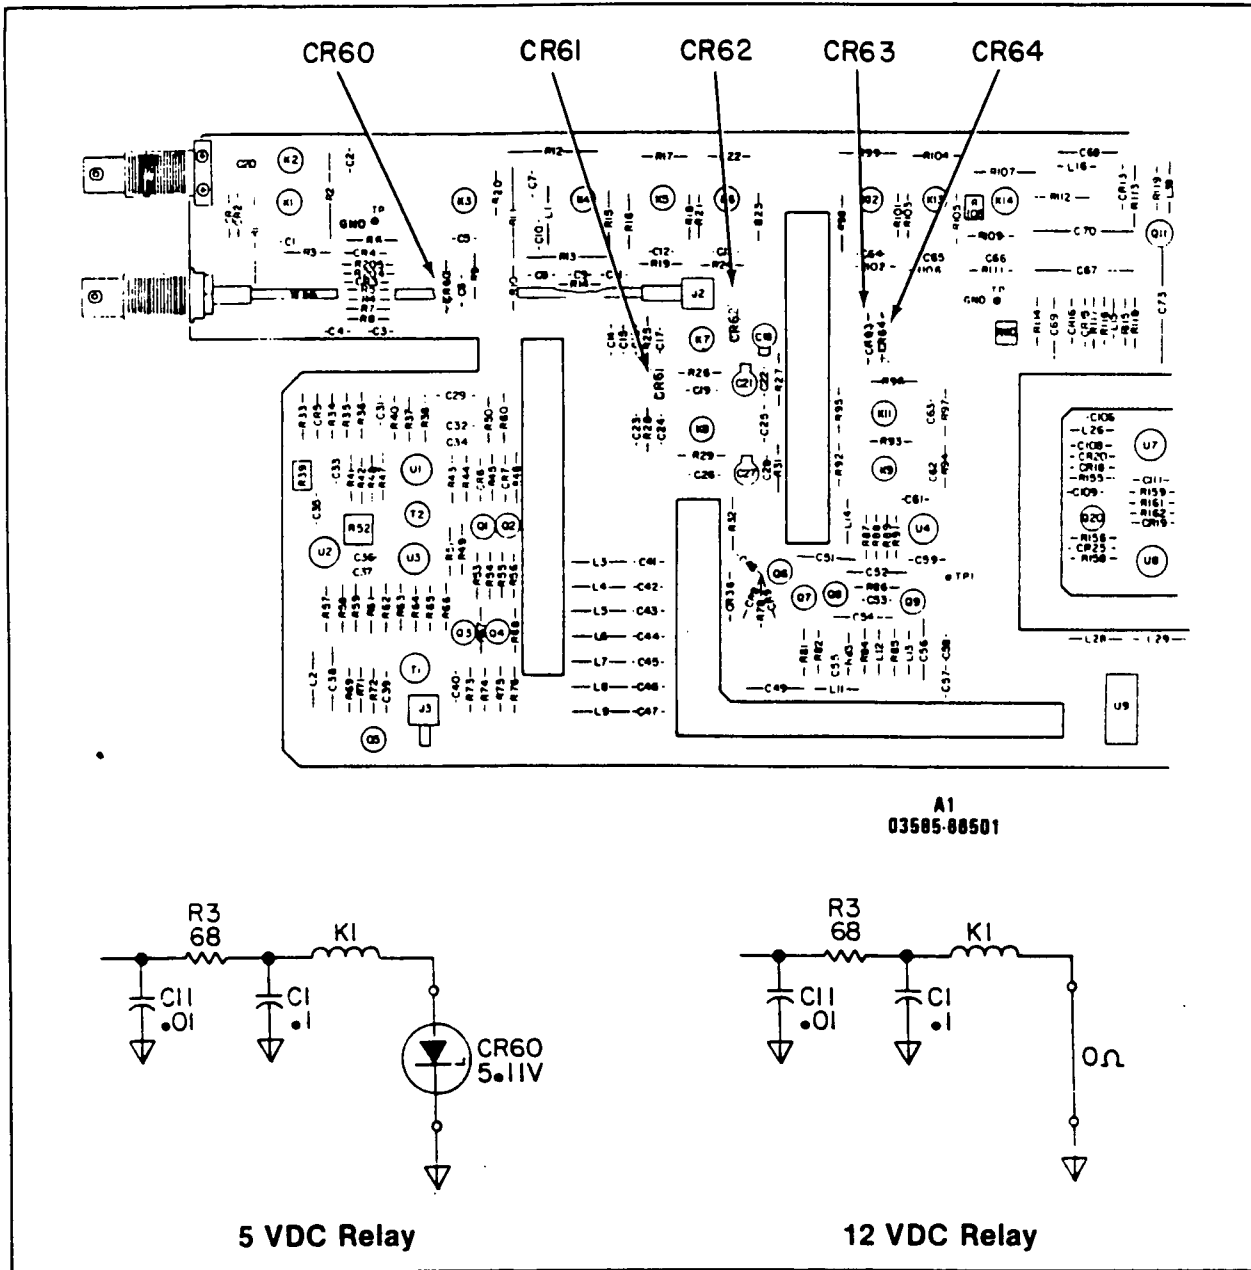
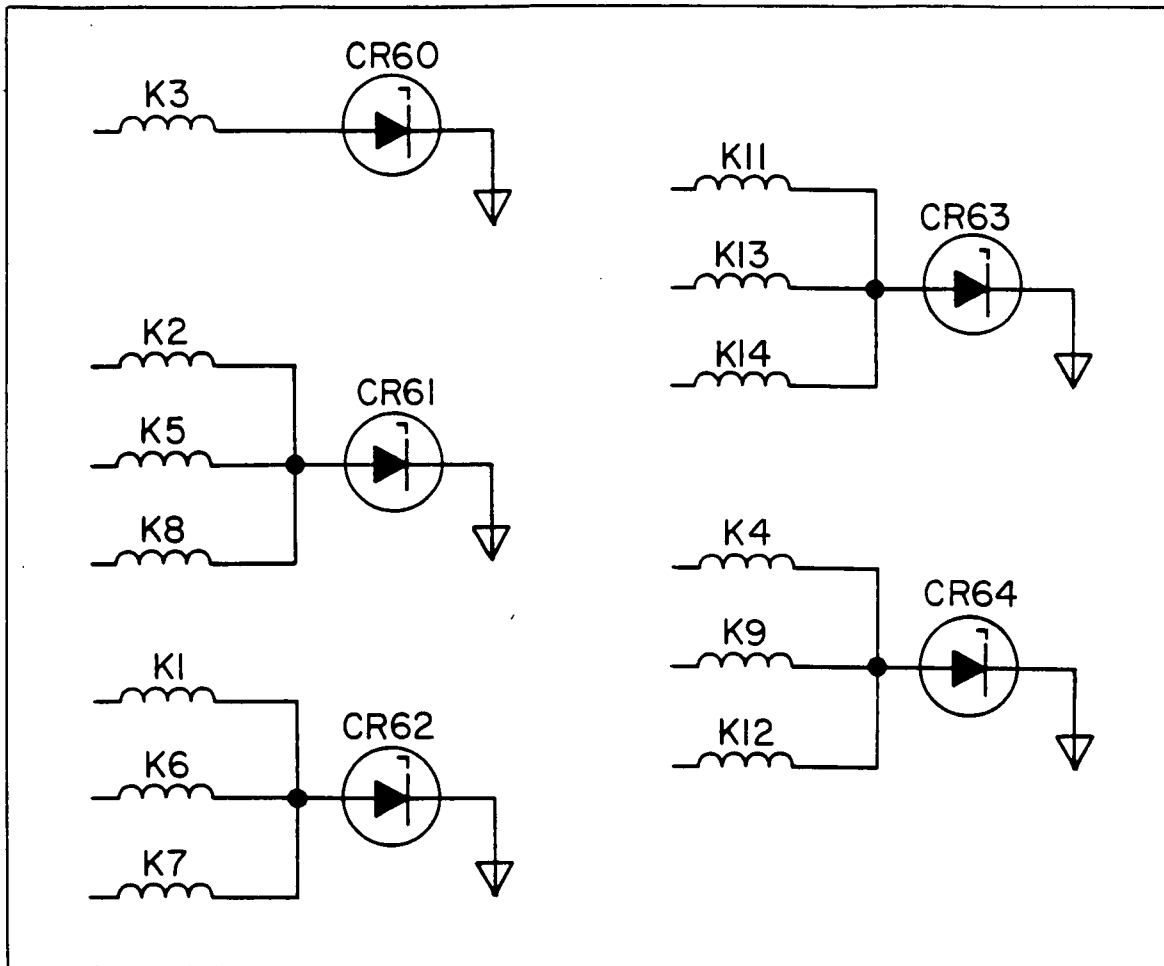

Figure 2. A1 Board Serial Numbers 1750A01611 and Later.
Figure 4. Zener Diode and Relay Arrangement After Serial Number 1750A01610.
The 3585A uses a 12 VDC relay for relays A1K1-K9, K11-K14 except when 12 VDC relays are not available from the vendor, in which case 5 VDC relays are used. In order to properly drive the 5 VDC relays a zener diode is placed in series with the relay coil. For 3585A's with serial numbers earlier than 1750A01611, and which use the 5 VDC relay an 8.25 volt zener diode is placed on the voltage side of the relay coil as shown in figure 1. For 3585A's with serial numbers later than 1750A01611, and which use the 5 VDC relays a 5.11 volt zener diode is placed on the ground side of the relay coil as shown in figure 2.
3. If the A1 Board looks like figure 2, and the diode positions A1CR60 through A1CR64 are loaded with 5.11 volt zener diodes, refer to SECTION 3: 5 VDC RELAYS.
4. If the A1 board looks like figure 2, and the diode positions A1CR60 through A1CR64 are loaded with 0 ohm resistors, refer to SECTION 4: 12 VDC RELAYS.
1. To properly drive the 5 VDC relays, 5.1 volt zener diodes, A1CR60 through A1CR64, were added to the circuitry. The five zener diodes are arranged with the 13 relays as shown in figure 4. The 5 volt zener diodes are part number 1902-0579. See figure 2 to clarify this change.
Before replacing a relay, verify that it is a 5 VDC relay by checking for the zener diodes as in figure 2.
Before replacing a relay verify that it is a 12 VDC relay by checking for the 0 ohm resistors as shown in figure 2.